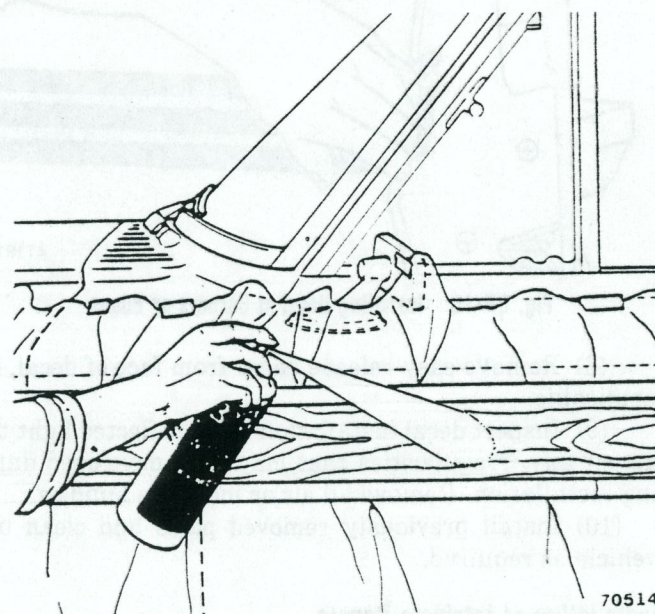

Fig. 3P-11 Spraying Remover on Overlay
(1) Clean repair surfaces, adjacent panels and openings as required.
(2) Remove overlay reveal mouldings, door handles, lock assembly, side marker lamps or other overlapping parts from affected panel.
(3) Mask off area surrounding panel.
(4) Scuff sand overlay with 220 grade wet or dry sandpaper. Avoid cutting through and reclean overlay.
(5) Spray 3M Woodgrain and Stripe Remover, or equivalent, on flange area first. Then spray entire overlay to be removed (fig. 3P-11). Move spray can back and forth across entire overlay with smooth steady motion. Make sure entire overlay is coated with remover.